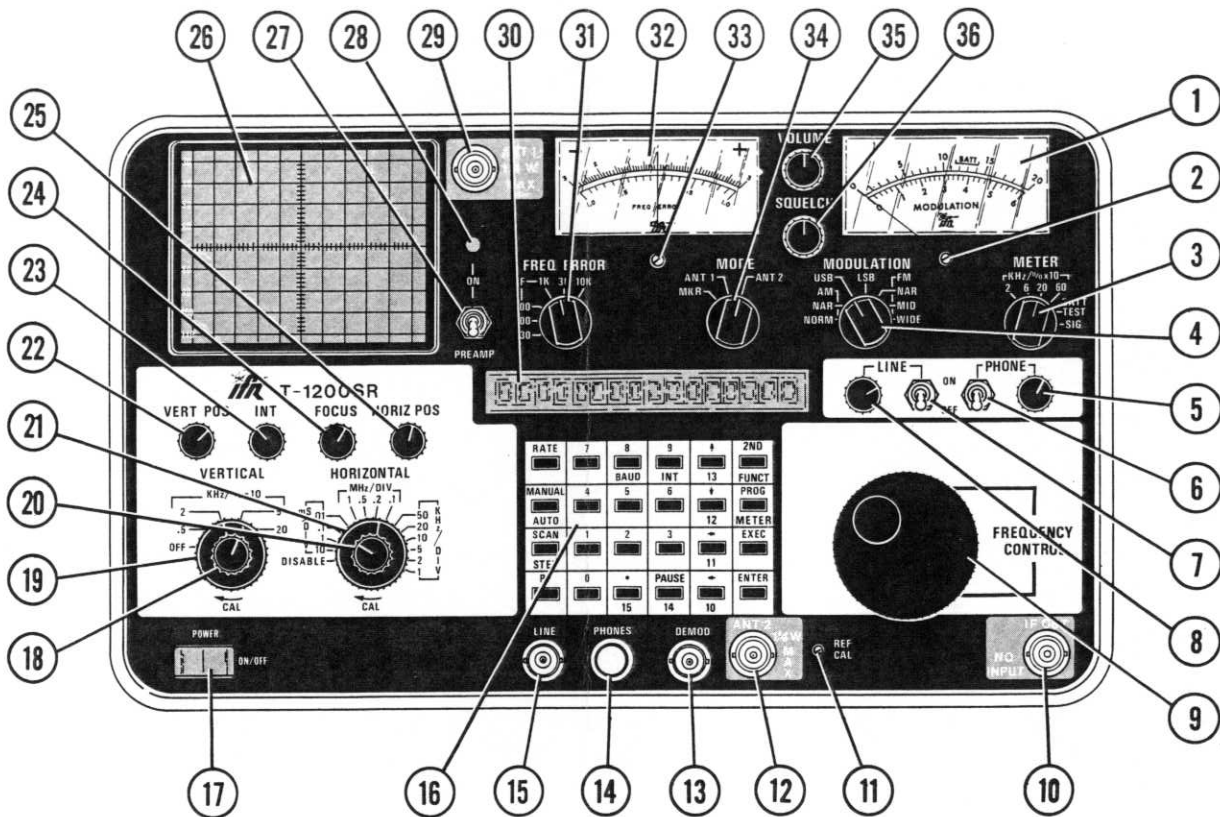

Figure 3-1 T-1200SR Front Panel Controls, Connectors & Indicators
3-1 T-1200SR FRONT PANEL (Reference Figure 3-1)
Selects inputs source for MODULATION Meter (1) as shown in Table 3-1 (Reference Figure 3-1).